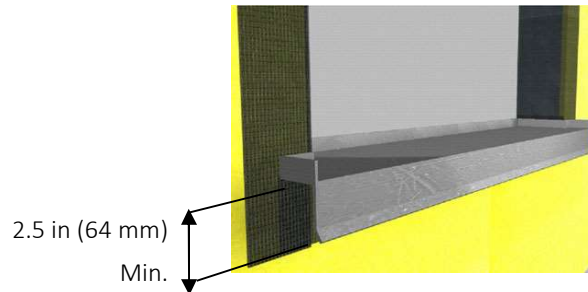

Fig. 6
- a. Install a watertight pan flashing at all sill locations - Figure 6.
- c. The flashing shall extend a minimum of 2 1/2 in (64 mm) down over the face of the Outsulation Mineral Wool System - **Figure 6.**